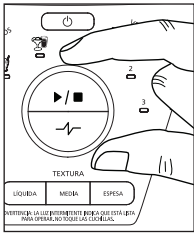

Fig. 20
2. Turn the dial to select the appropriate automatic program for your recipe (Fig. 20).